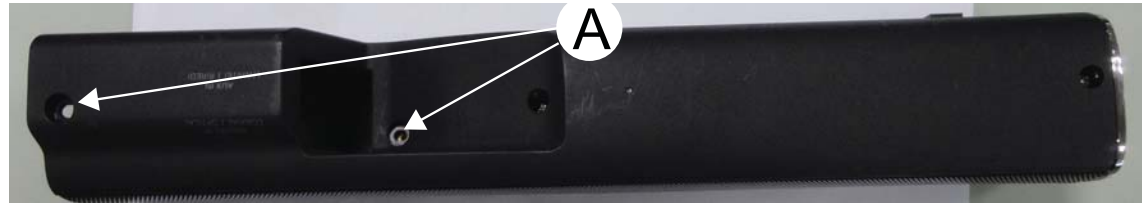

Figure 1
- 1) Loosen 2*2 screws "A" at both side of SPK_L/R as shown in figure 1.